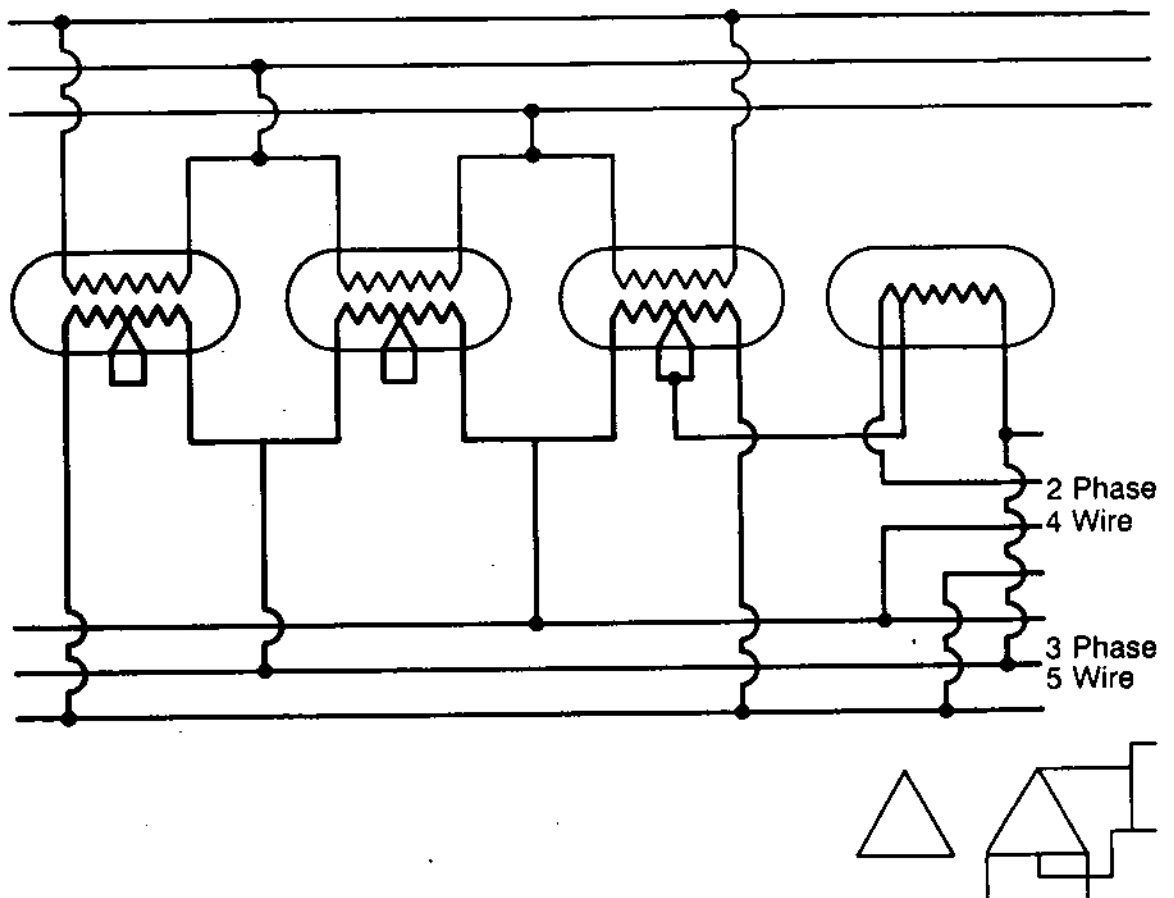

Fig. 47 - Three-Phase to Two-Phase from Delta Bank by Autotransformer
l. *Phase Transformation, Three-Phase to Two-Phase Using an Autotransformer.* See Figure 47. This is the method for taking two-phase voltages from a delta bank by the application of an autotransformer. The autotransformer is connected between the apex of the delta and the mid-point of the opposite side. This connection gives a one-to-one ratio which means that the two-phase and three-phase voltages on the low-voltage side are equal. The high voltage winding of the bank may be connected either star or delta. The two-phase and three-phase loads may be taken off simultaneously. If no load is drawn off at three-phase, approximately 75 percent of the bank rating may be taken off at two-phase.